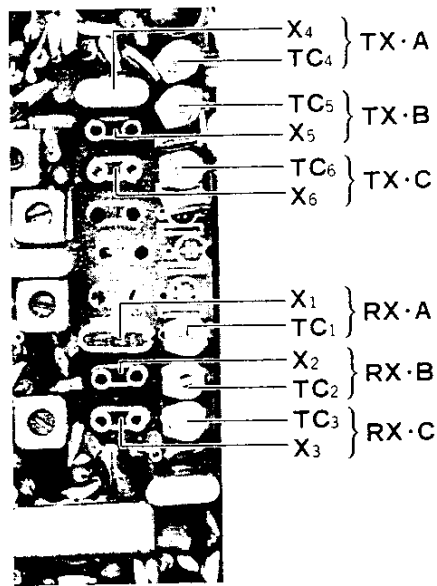

Fig. 16
- a) Insert the desired crystals (See Table 1, page 2-3 for crystal specifications) into the correct sockets, as detailed in Figure 16.
- b) Now insert the desired crystals into the appropriate sockets, as shown in Figure 16.